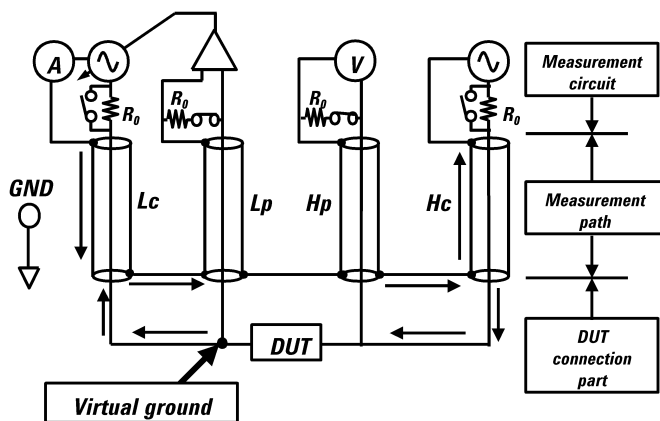

Figure 5. Cable terminated Auto-Balancing-Bridge method
1. The 4294A uses an innovative technology called the Cable-terminated Auto-Balancing-Bridge method. As shown in Figure 5, the measurement path is terminated by the characteristic impedance of the cable ( $R_0 = 50 \text{ ohm}$ ) at high frequencies. This termination solves the standing wave problem at high frequencies so that the measurement signal can be precisely conveyed, independent of the frequency or the measurement path length. Hence, this technology provides highly accurate impedance